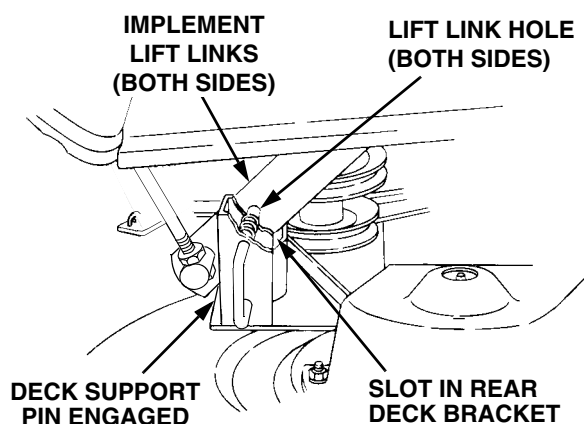

Figure 48
7. Carefully guide the tractor implement lift links (left and right) into the rear deck bracket slots (left and right) as the tractor implement lift handle is lowered to its lowest setting (Refer to Figure 48).
8. Pull both deck support pins outward and rotate rearward to disengage the outer surface to the rear deck brackets. Release the pins, making certain each deck support pin passes through the inner hole of the rear deck bracket. The spring tension will push the pins inward and, if aligned, through the hole in each implement lift link (See Figure 48).